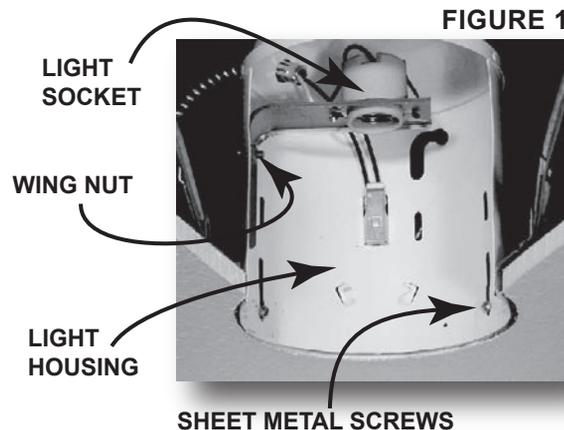
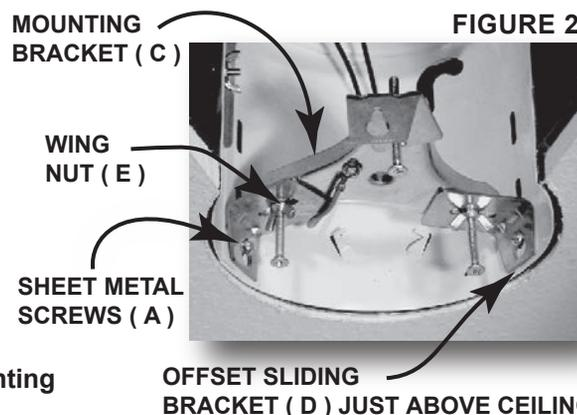
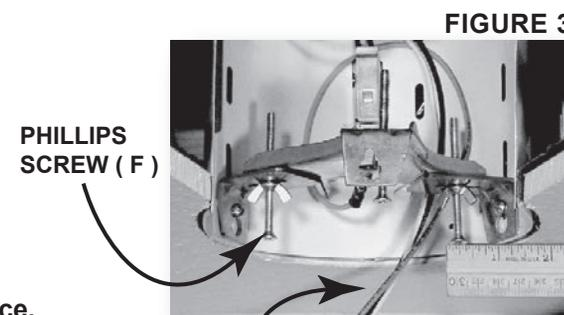

FIGURE 1
FIGURE 2
FIGURE 3
STEP 4. Pre assemble mounting bracket (C) using phillips screws (F) and wing nuts (E) to hold offset sliding brackets (D) in place.
STEP 6. Insert power outlet adapter (B) into light socket.
STEP 7. Loosen wing nut in can and raise light socket as high as possible (SEE FIGURE 1). Some can assemblies will not have this configuration, just set light socket aside.
STEP 8. Remove the (3) sheet metal screws in the can (SEE FIGURE 1) and replace with extended self tapping sheet metal screws (A) (install 1/2 way in). Some cans will not have these screws, so you will need to install the self tapping screws (A) by raising the mounting bracket assembling into the can and then slide the offset sliding brackets (D) to fit can (make sure the offset sliding brackets (D) are just above the ceiling (SEE FIGURE 2). Then mark locations for the self tapping screws. Remove mounting bracket (C) and install self tapping screws 1/2 way in. HINT: install one sheet metal screw first then mount offset sliding bracket (D) onto that screw. Now mark for the other two screws.
STEP 9. Install mounting bracket assembly into can and slide (at an angle) offset sliding brackets (D) onto sheet metal screws (A). Tighten sheet metal screws (A) to secure offset sliding brackets (D) in place.
STEP 10. Adjust phillips screws (F) on mounting bracket (C) until flush with ceiling (SEE FIGURE 3). Tighten wing nuts (E) to secure in place.